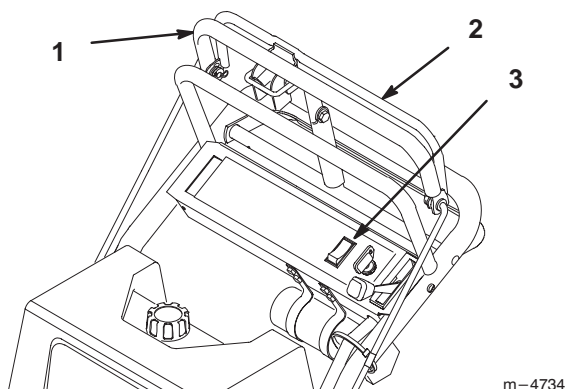

Figure 15
1. Pull on the upper control bar to stop the machine (Fig. 15).
1. Releasing blade control bail to disengage blades (PTO) (Fig. 15).
2. Or push the blade control switch (PTO) to the “OFF” position (Fig. 15).